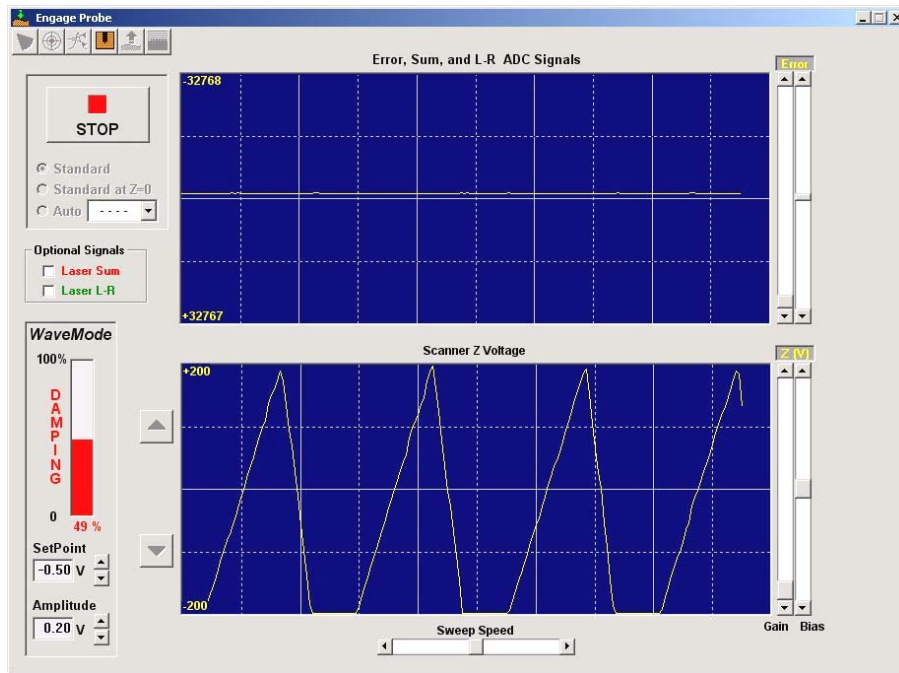

Figure 4-4 Appearance of the Engage screen as a Wavemode probe is being lowered to the surface. The Damping Factor has been set to 49%.
1. Open the **Engage** window. When *Wavemode* operation is selected at the **SPM Configuration** window the *Wavemode Damping* panel in the lower-left corner of the window will be enabled, as shown in Figure 4-4.